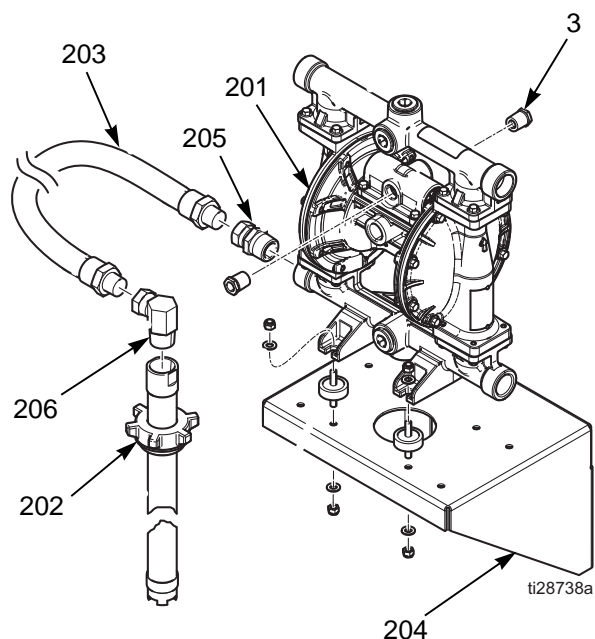

FIG. 3. Husky 1050 Wall Mount
2. Position wall bracket (204) no more than 5 ft (1.52 m) above floor. Check that bracket is level. Attach to wall, using screws long enough to keep bracket from vibrating. See FIG. 3.
3. Connect swivel union (205) to pump inlet.
4. Install bushing (3) in pump air inlet.
5. Install pump (201) on bracket (204) securely, using provided dampeners, washers, and lock nuts.
6. Connect elbow (206) to top of riser tube kit (202).
7. Connect suction hose (203) to elbow (206) and inlet swivel (205).